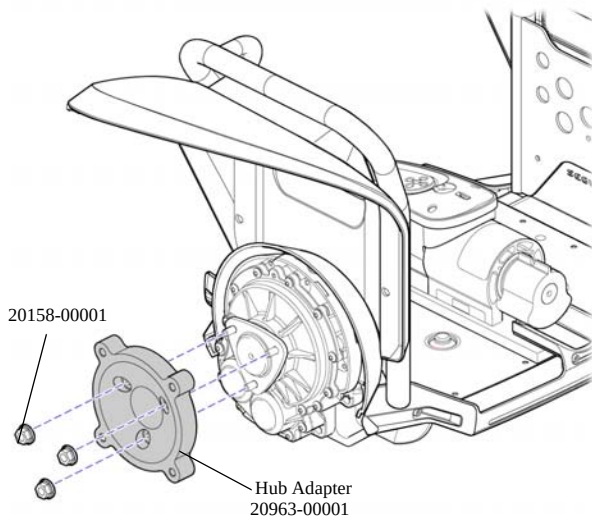

Figure 4-4: Remove or Install Hub Adapter, x2
3. Align three center holes in hub adapter or entire wheel assembly with lugs on gearbox. Seat hub adapter over lugs against gearbox flange. See Figure 4-4.
4. Thread (3) 13mm wheel nuts (20158-00001) through holes in hub adapter onto lugs.